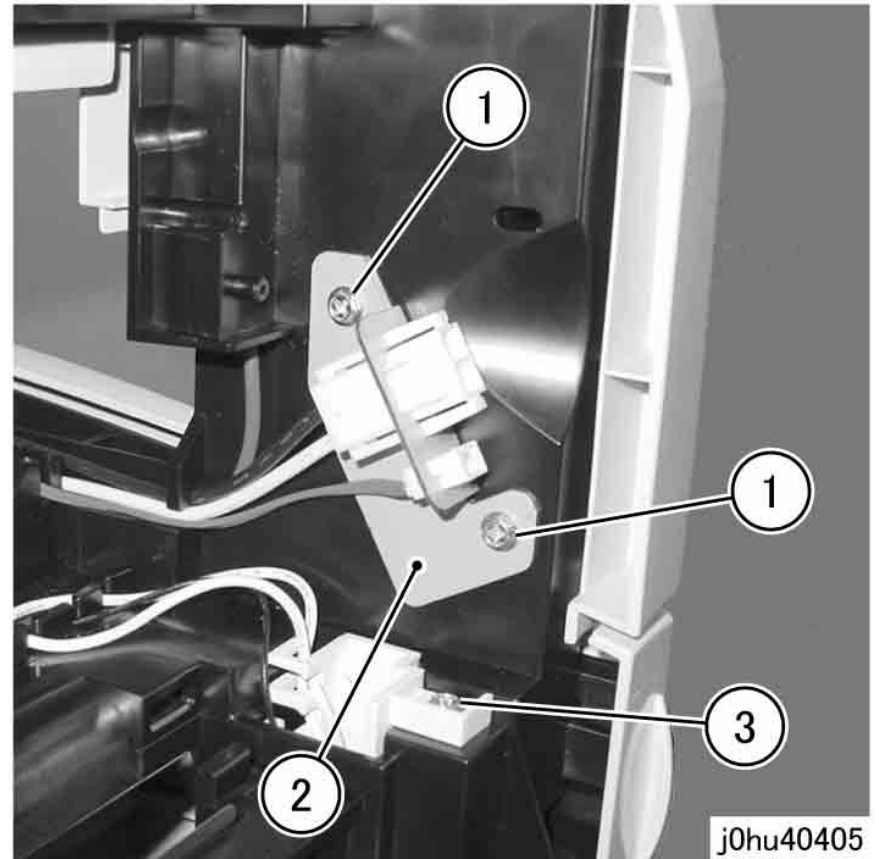

Figure 2 Remove Self Tapping Screws
7. Remove the Self Tapping Screws that secure the Corotron Block (Figure 2).